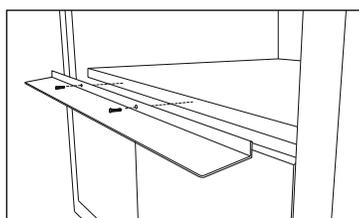

Figure 10
- 2. Install deflector as shown in Figures 10 and 11**